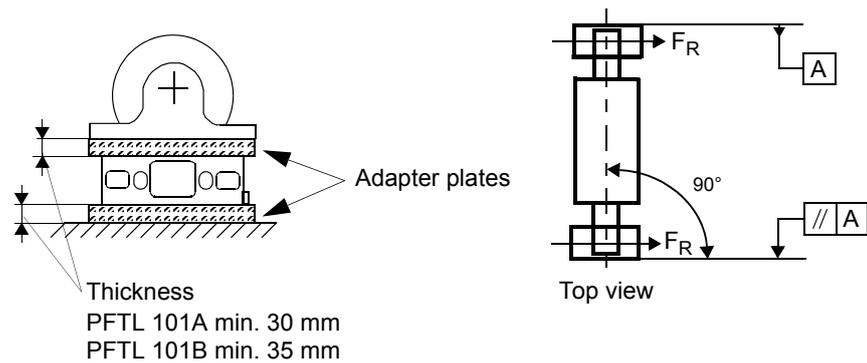

Figure 15. Installation of Adapter Plates and Alignment of Load Cells
For PFTL 101A the thickness of the adapter plates should be minimum 30 mm, and for PFTL 101B 35 mm, see Figure 15. Installation of Adapter Plates and Alignment of Load Cells page 23
6. Adjust the load cells so that they are in parallel with each other and in line with the axial direction of the roll. Tighten the foundation screws, see Figure 15. Installation of Adapter Plates and Alignment of Load Cells page 23.
7. Adjust the roll so that it is at right angles to the longitudinal direction of the load cells. Tighten the screws in the upper adapter plate, see Figure 15. Installation of Adapter Plates and Alignment of Load Cells page 23.